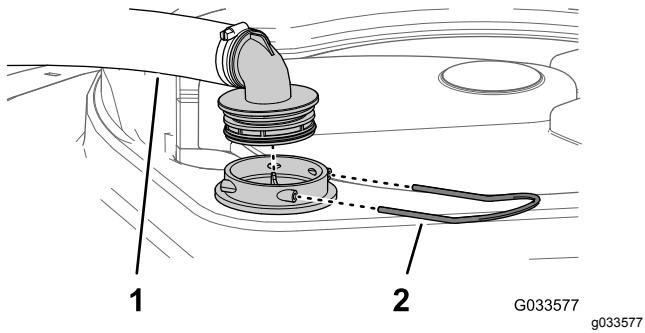

Figure 76
2. At the top of the sprayer tank, remove the retainer that secures the hose fitting attached to the large hose from the strainer housing (Figure 76).
3. Remove the hose and hose fitting from the strainer housing (Figure 76).